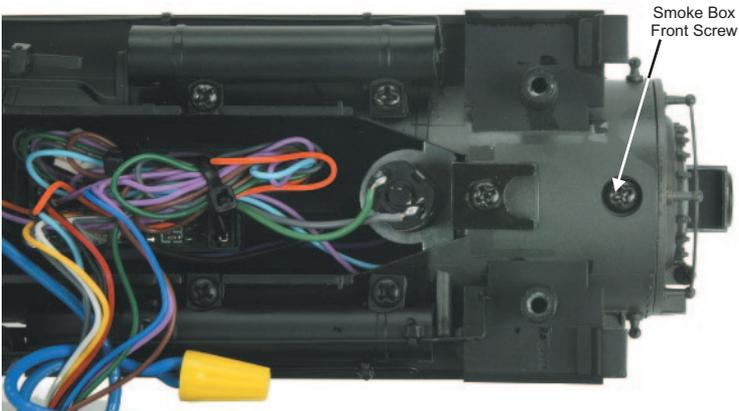

Figure 11
2. Remove the screw attaching the smokebox front and pull the smokebox front from the boiler shell. (Fig 11)